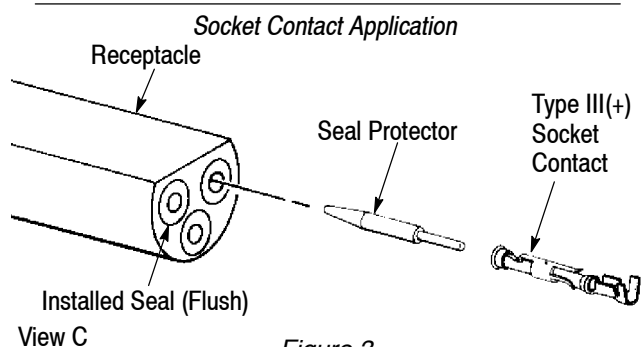

Figure 3
1. When inserting a pin contact, install the Seal Protector 208337-1 over the pin portion as shown in Figure 3, View A. When inserting a socket contact, use the Seal Protector 208338-1 in the socket portion of the contact as shown in Figure 3, View C.
3. Align the contact with the back of the cavity and insert it straight into the cavity until bottomed. See Figure 3, Views A and C.
1. Position the seal so the collar is approximately 6.35 mm [.250 in.] from the end of the contact as shown in Figure 3, View B.
4. Check seal - it should have seated flush with the back of the connector. If it is NOT, push it in with your finger or a round-tip tool. See Figure 3, View B.
- b. For subminiature COAXICON Contacts only, moisten the contact and the inside of the seal with isopropyl alcohol, then carefully slide the seal over the contact until properly positioned. See Figure 3.
1. Slide the seal over the contact approximately 6.35 mm [.250 in.]. See Figure 3.